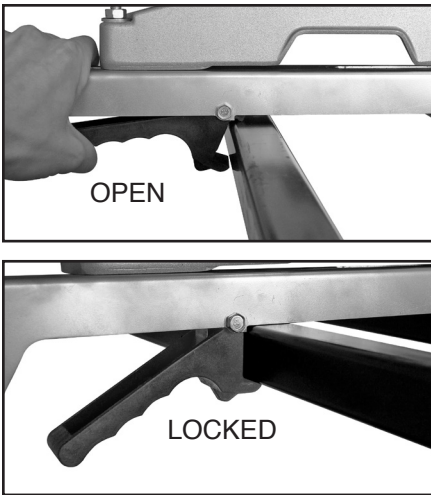

Figure 6
7. Carefully lift the saw and place onto the miter saw stand. Be sure the hook end of the machine mount locks under the top tube as shown in Figure 5. The spring loaded handle should lock under the opposite top tube. Figure 6.